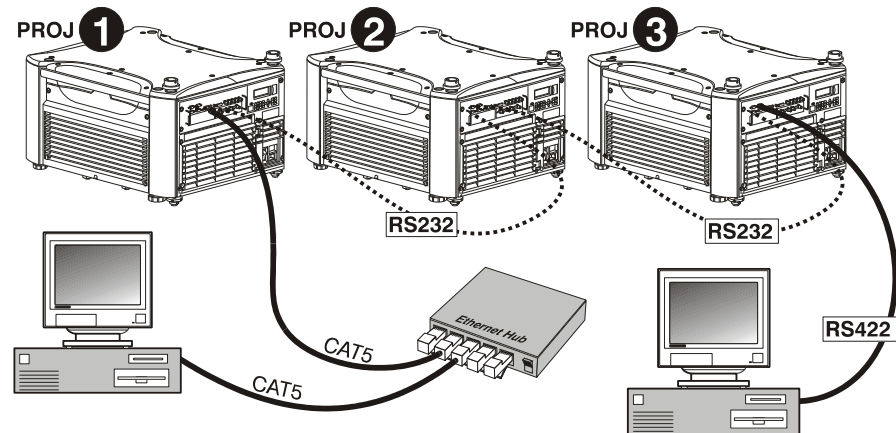

Figure 2.36. Joining All Networks
- Communicating to All Ports** ▶ To relay all messages to all ports—RS-232, RS-422, and Ethernet—set the “Network Routing” option in the *Communications* menu for each projector to “All Joined”. This configuration is useful if you are using a non-RS-232 controller with the RS-232 linking available between these projectors. For example, you may want to use both an RS-422-compatible controller and an Ethernet-connected PC for working with a network of projectors linked via their RS-232 in/out ports (**Figure 2.36**).
To isolate just RS-422 communications, select “RS-232 and Ethernet Joined”. In Figure 2.36, only projector #3 will respond to the RS-422 controller. To isolate just Ethernet communications, select “RS-232 and RS-422 Joined”—only projector #1 will respond via Ethernet.